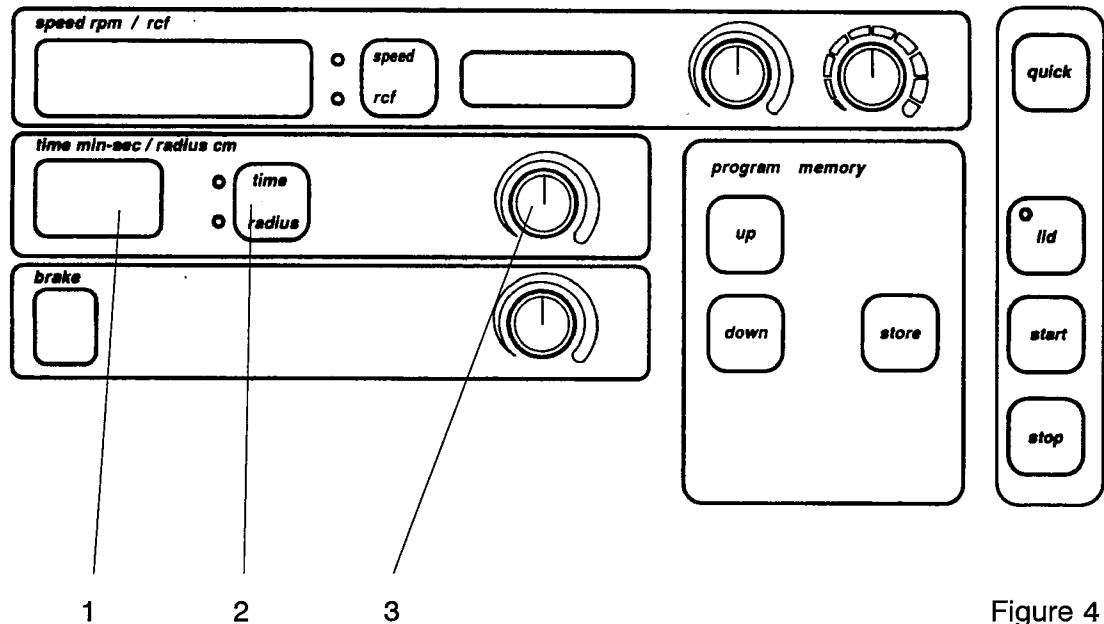

Figure 4
Press down key 2 and hold it (see figure 4). Choose with the turn knob 3 the required radius correction value which will be indicated on the digital indication 1. Release key 2 and the digital indication 1 will show the preset operating time. The preset radius correction value can be checked at any time by pressing key 2.